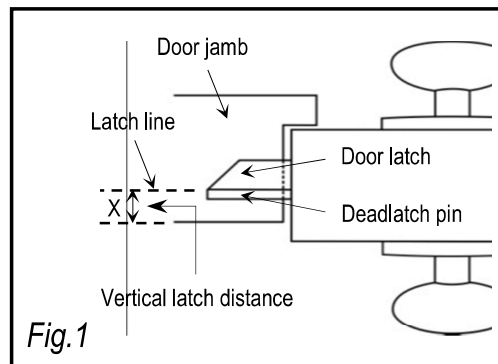

Fig.1
1. Measure the latch line (see fig. 1).